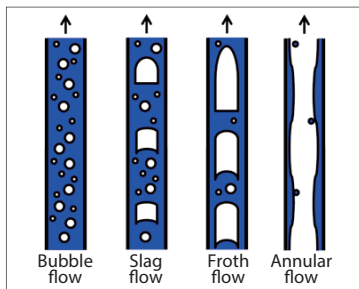

Figure 2: Types of two-phase flow
- The amount of lifting is determined by an empirical formula based on the amount of the delivered air, the submergence depth, and the pump head height. Depending on the objectives, aeration may or may not be facilitated. The type of two-phase flow inside the pipe (Figure 2) needs to be understood.